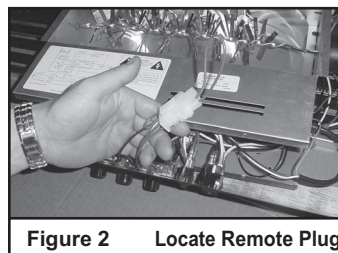

Figure 2 Locate Remote Plug
- Carefully rotate control panel forward. Locate the remote plug. See Figure 2.